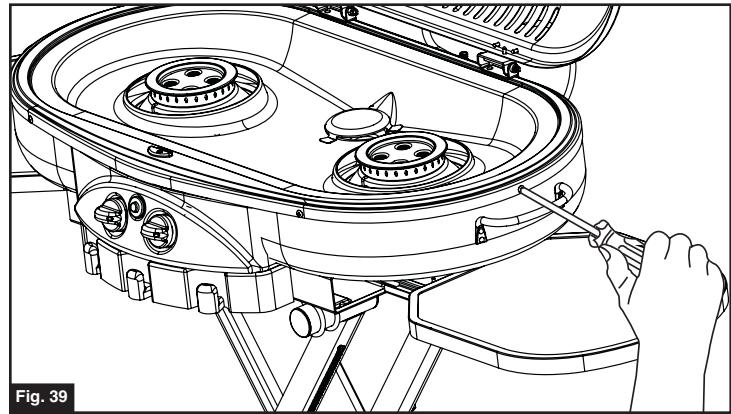

Fig. 39
- Using a screwdriver, remove the screws holding the cooktop and set aside. (Fig. 39)